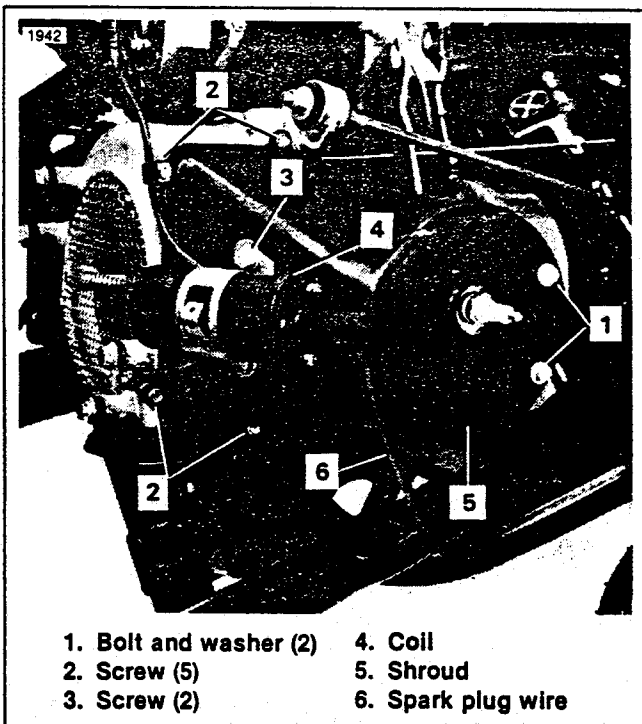

Figure 5-4. Shroud Mounting
4. See Figure 5-4. Remove the top shroud bolts and washers (1).
5. See Figure 5-4. Remove screws (3) and coil (4). Remove the shroud screws (2) and shroud (5).